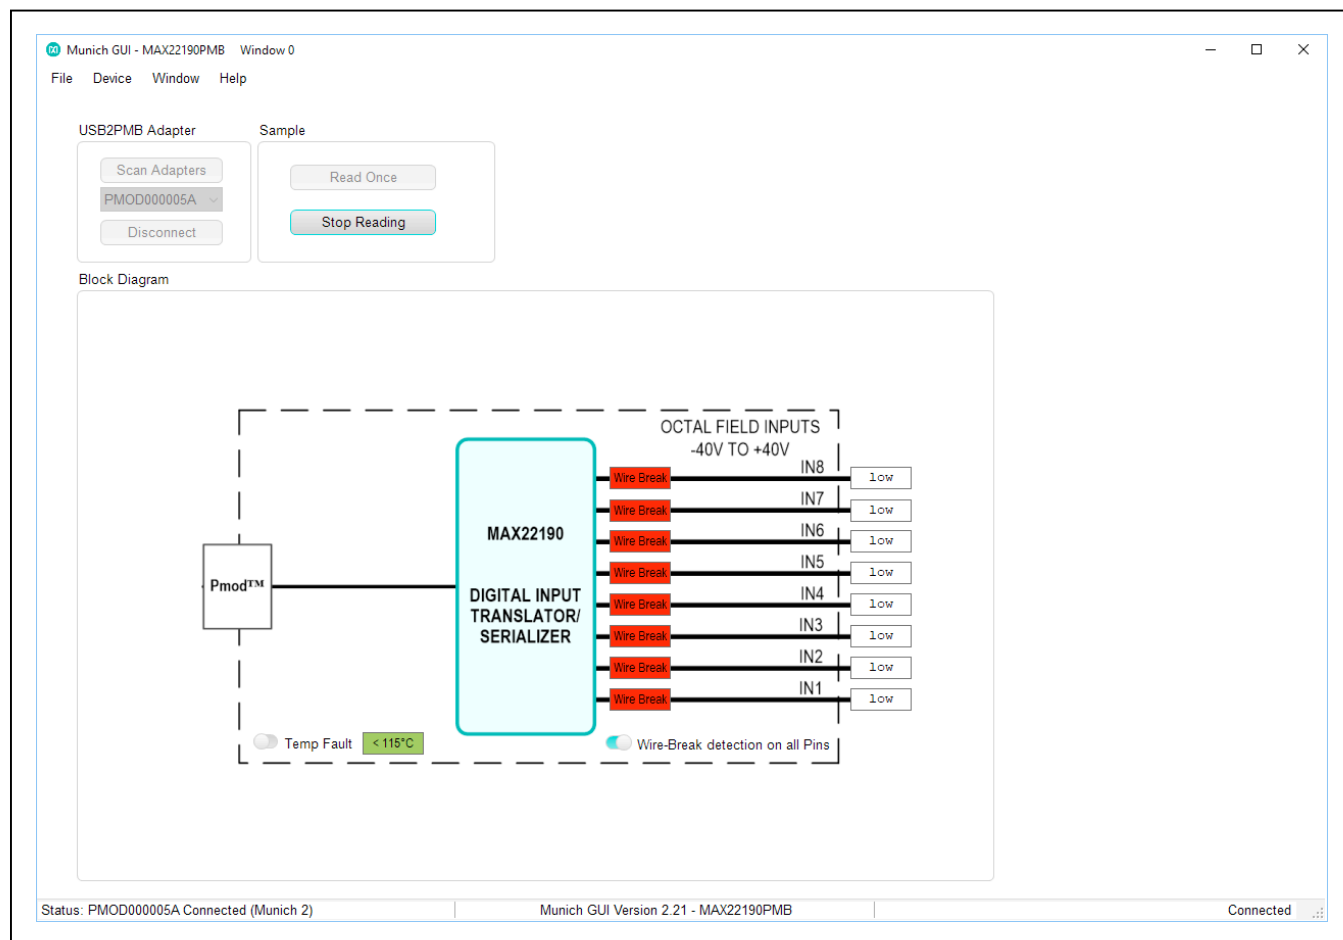

Figure 5. MAX22190PMB# Software All Inputs Floating
- 9) Turn on **Wire Break detection on all Pins**. Munich GUI will monitor if the inputs are connected to the sensor input cables. If nothing is connected to the X2 connector, all inputs are shown as **low**, and all Wire Break boxes are shown in red. See Figure 5. On the MAX22190PMB# board, the READYB and FAULTB LEDs are both on.
tor, all inputs are shown as **Low**, and all **Wire Break** boxes are shown in red (see Figure 5). At power-up the MAX22190PMB# board, the READYB and FAULTB LEDs are both on. FAULTB shows power-on-reset detected and should turn off after the first read operation.